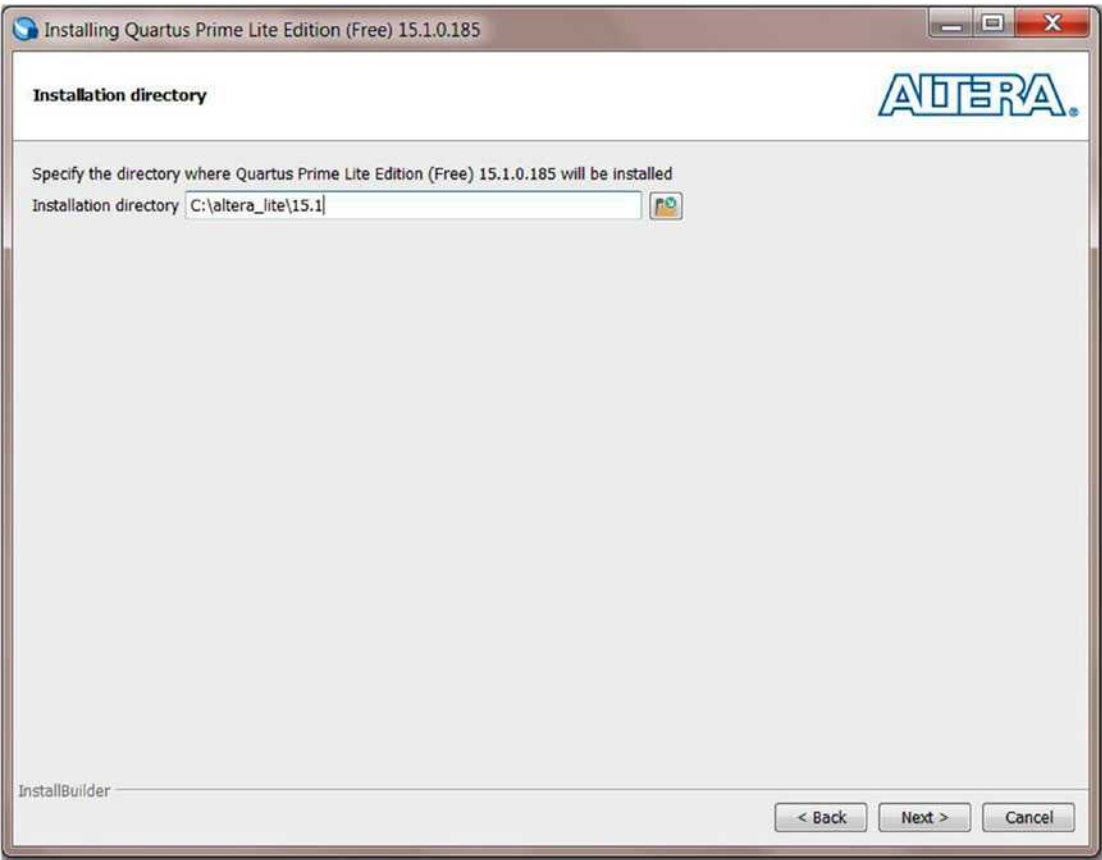

Figure 3-12. *Installation directory*
3. Select the installation location for the giant (>10GB) Quartus Prime Lite edition and click **Next** (Figure 3-12).